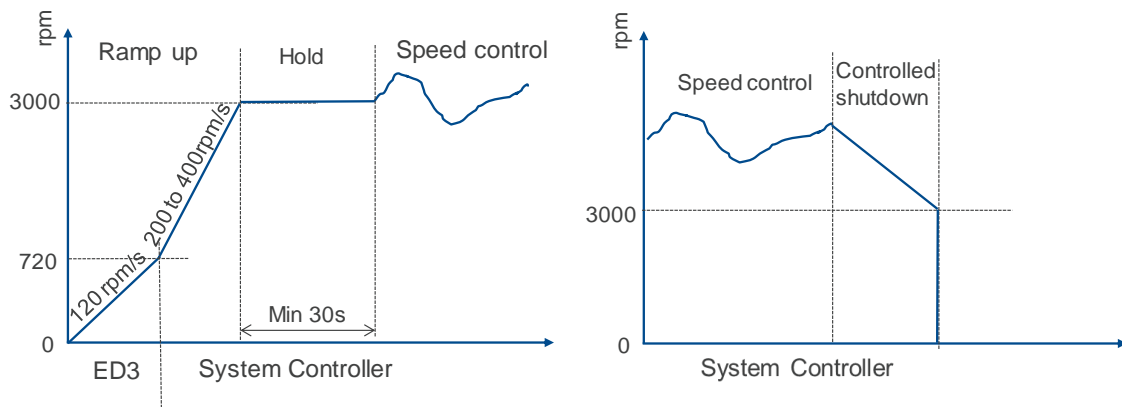

Figure 4: Ramp-up and controlled shutdown
- At start-up the system should be able to bring the compressor to a point inside the envelope as fast as possible and to keep the compressor running there. Running outside the envelope is not allowed. Emerson's recommendation is to start with a speed of 3000 rpm and to freeze the speed for minimum 30 seconds or longer until the system is in stable operation – see **Figure 4 "Ramp up"**.
- To stop the compressor, reduce the speed to 3000 rpm then stop the compressor – see **Figure 4 "Controlled shutdown"**.